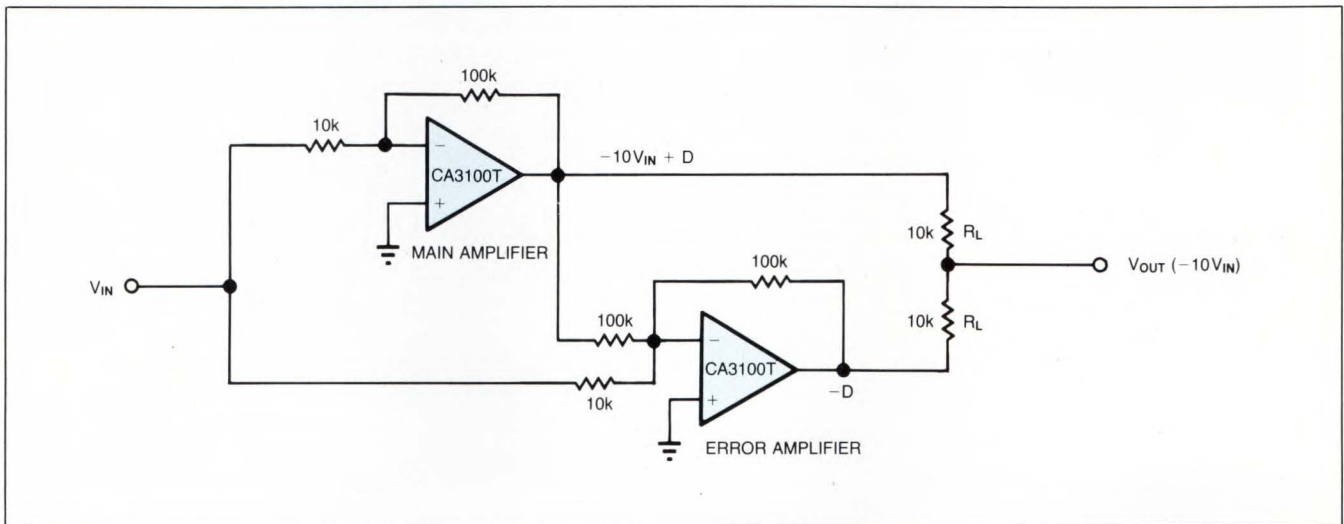

Fig 1—A feedforward error amplifier provides cancellation of the main amplifier's distortion products (D) while preserving the desired ($-10V_{IN}$) output.
You can employ feedforward techniques to reduce distortion in wideband RF amplifiers; the audio amplifier in **Fig 1** illustrates the feedforward principle, even though feedforward techniques offer no significant advantage in the audio-frequency range. (Both feedforward and feedback techniques reduce distortion in amplifiers, but each approach carries a distinct penalty. Feedback loops are subject to instability, whereas feedforward amplifiers are inherently stable but require an additional error amplifier.)
In **Fig 1**, the main amplifier has a gain of 10, but it introduces some distortion (D) in the amplification process. This component appears at the error ampli-
not fixed. In **Fig 1**, though, a given control voltage $V_{CONTROL}$ produces the same channel resistance in the gain-control FET Q_{1B} for different FET pairs regardless of any variation in their parameters.